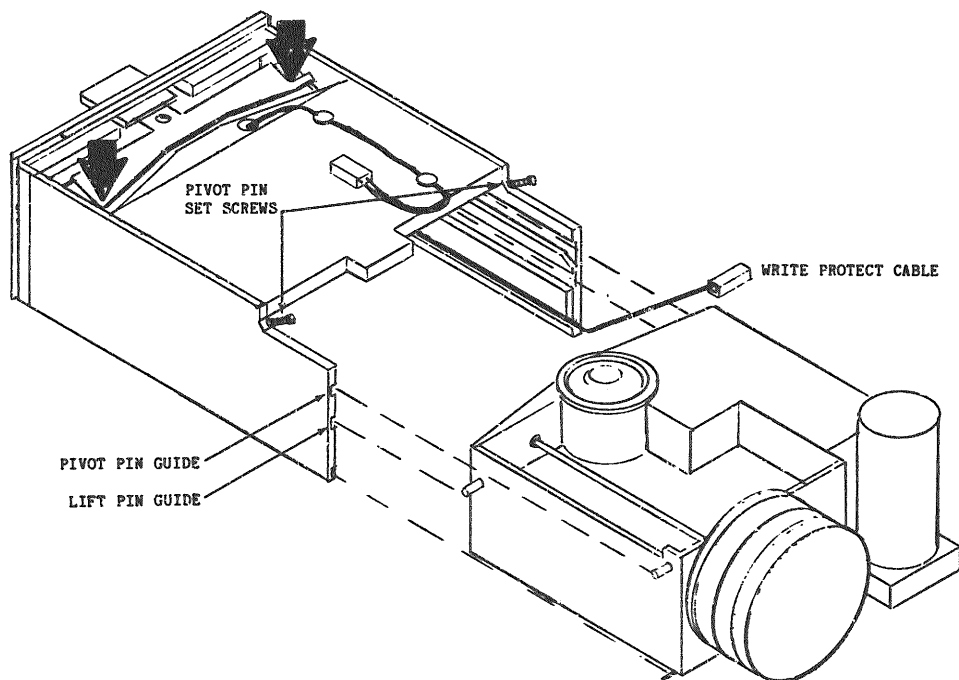

Figure 6-4. Sub-Chassis Installation
- 3) Open the door of the drive. With one hand, hold the Jaw Lifter in the open position (i.e., press down on the ends of the torsion bars, where the lift links are attached, as shown by the arrows in Figure 6-4).
- 1) With the outer structure placed right-side up and flat on a table, ensure that all the sensor harness wires (on the outer structure) are positioned out of the way of the incoming sub-chassis. Position the Write Protect Cable in the slot indicated in Figure 6-4.
- 3) Install the sub-chassis by sliding it into the guide slots. The lower slots are for the lift pins, and the upper slots are for the pivot pins (as shown in Figure 6-4).
- 4) Hold the Jaw Lifter in the open position (press down on the ends of the torsion bars where the lift links are attached - see Figure 6-4), and push the sub-chassis forward until the lift pins connect with the lift links and the pivot pins seat in the outer structure.
- 6) While holding the sub-chassis pressed forward, tighten the pivot pin set screws (see Figure 6-4).